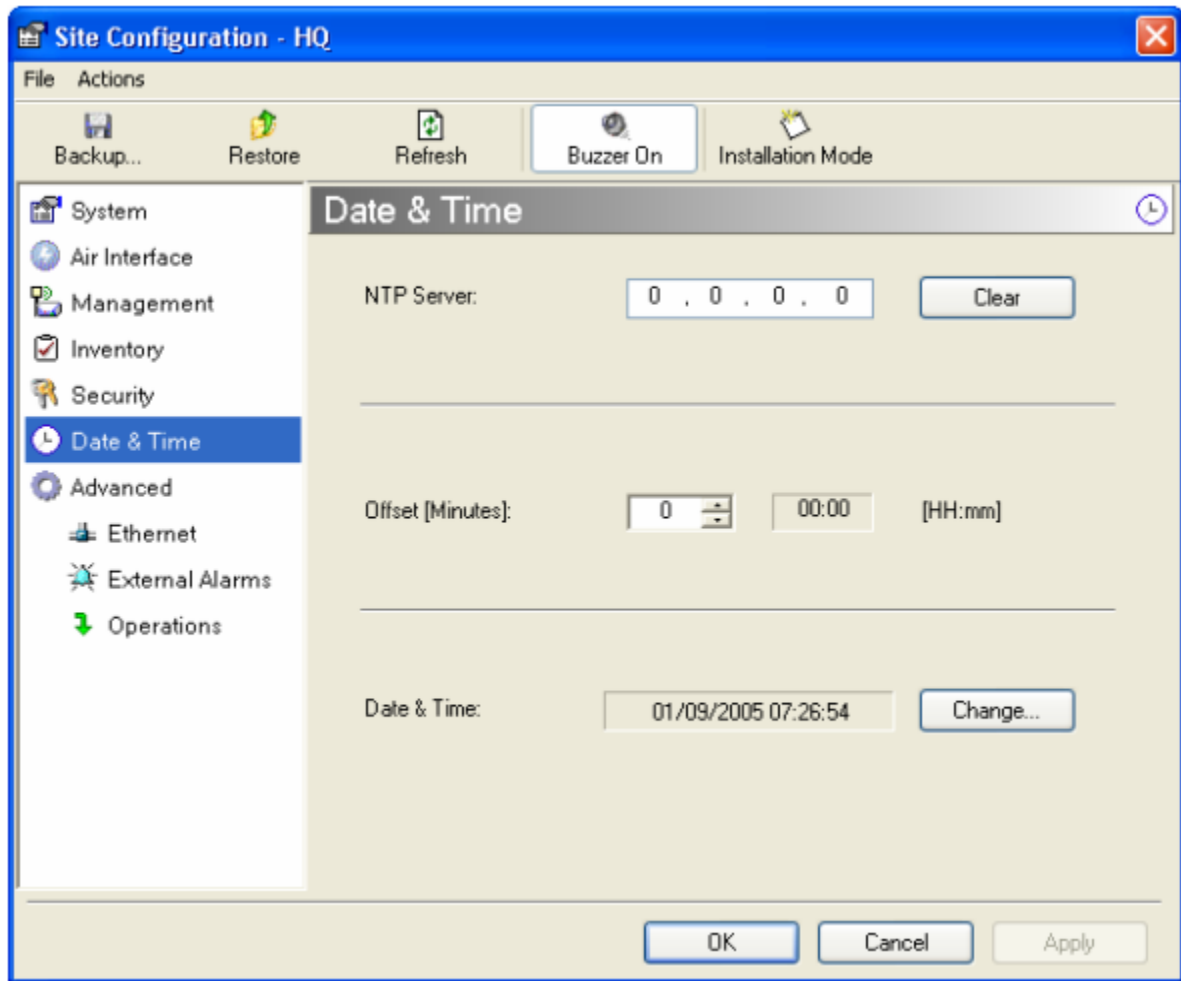

Figure 4-13. Date & Time configuration
3. Select Date & Time (see Figure 4-13).